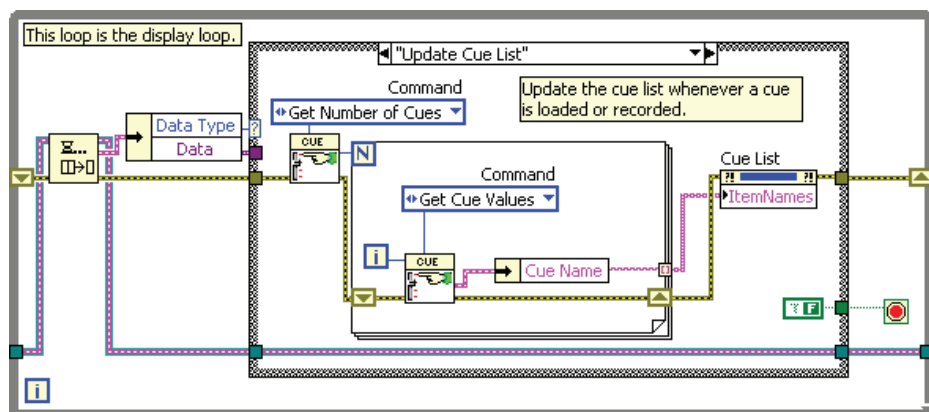

Figure 7-8. Update Cue List Case
1. Modify the Update Cue List case of the display loop as shown in Figure 7-8. Use the following items: